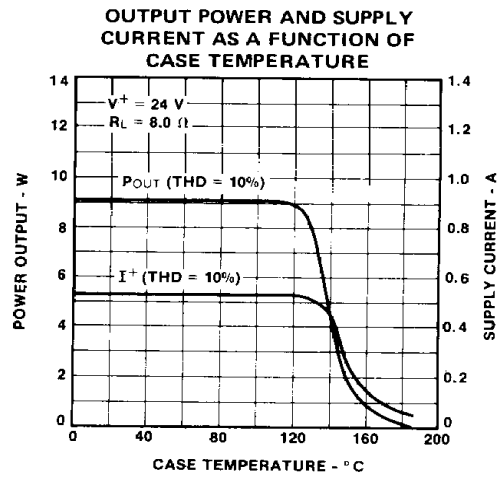

Figure 17
2. The heat sink can have a smaller factor of safety compared with that of a conventional circuit. In case of too high a junction temperature, power output, power dissipation and the supply current decrease (Figure 17) thus protecting the device.